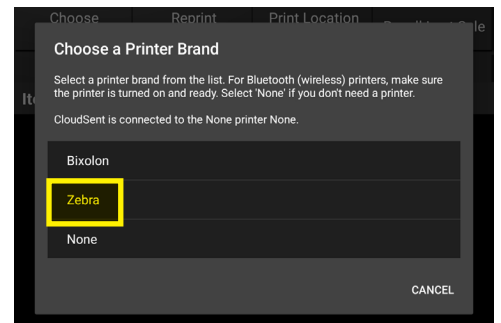

Figure 35
5. In the pop-up dialog, select Zebra as the printer type (Figure 35).